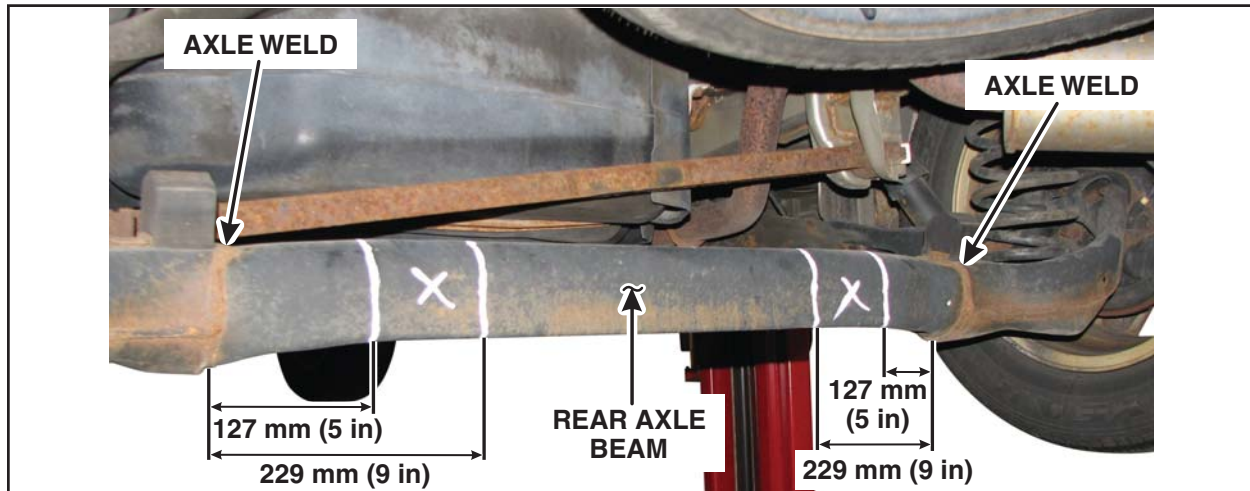

FIGURE 1
2. Measure and mark the areas located 127 mm (5 in) to 229 mm (9 in) inboard of the axle welds. See Figure 1.